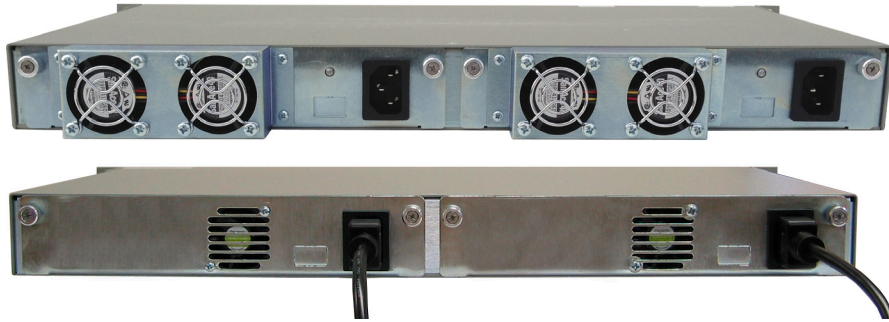

Figure 4: iConverter 5-Module Chassis with Installed AC Power Supplies
- ❑ Using a screwdriver, loosen the 2 thumb screws securing the power supply to the main chassis (refer to Figure 4).